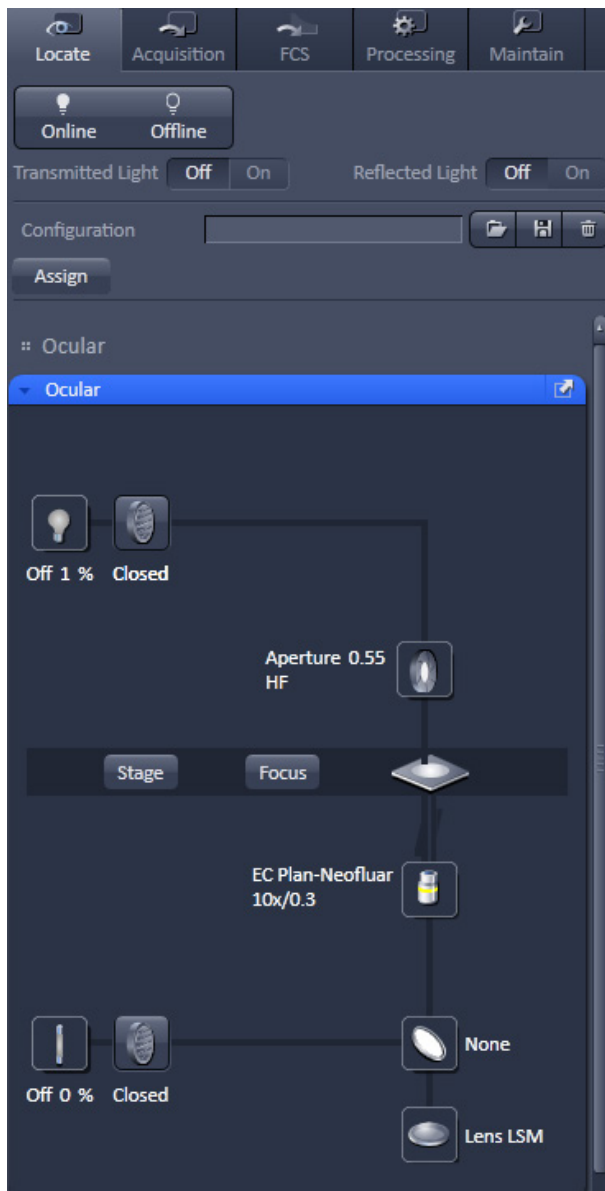

Fig. 327 Light Path - Ocular panel
- Open the **Ocular** panel (Fig. 327).